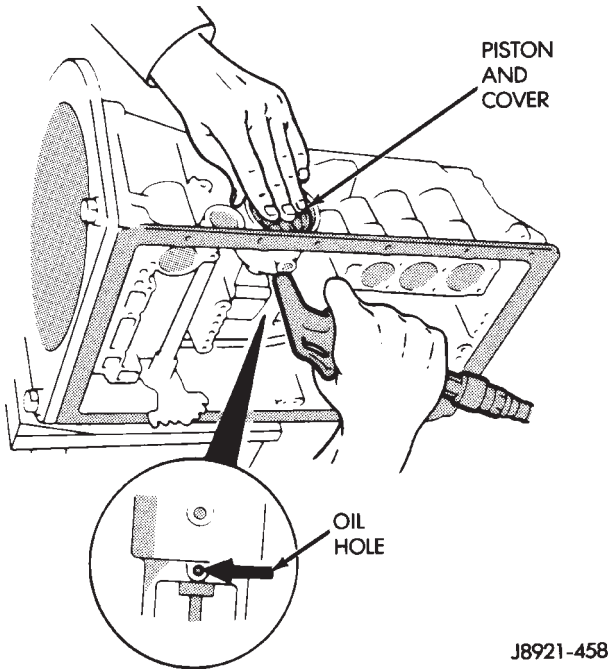

Fig. 74 Removing Servo Cover And Piston
(3) Remove servo piston and cover with compressed air. Apply compressed air through oil hole in servo boss to ease piston out of bore (Fig. 74).